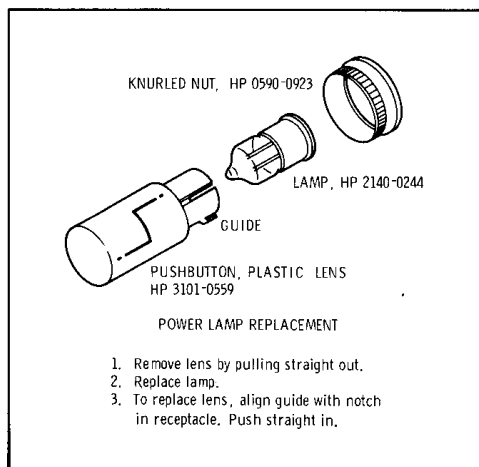

Figure 5. LINE Switch Lamp Replacement
**LINE Switch Lamp Replacement.** Figure 5 shows how to replace the lamp located in the LINE power switch.